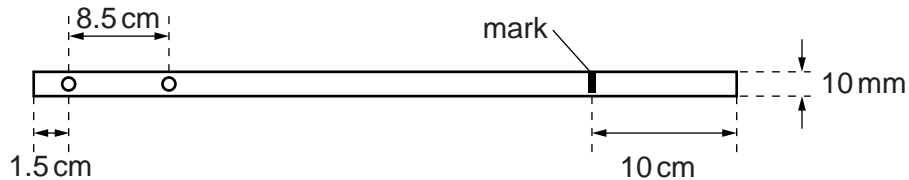

Fig. 2.2 (not to scale)
- 3 The wooden strip should have two holes of diameter 3.5mm drilled in it at the positions shown in Fig. 2.2.
Using a fine permanent ink marker pen, a small mark should be made on the side of the strip as shown in Fig. 2.2.